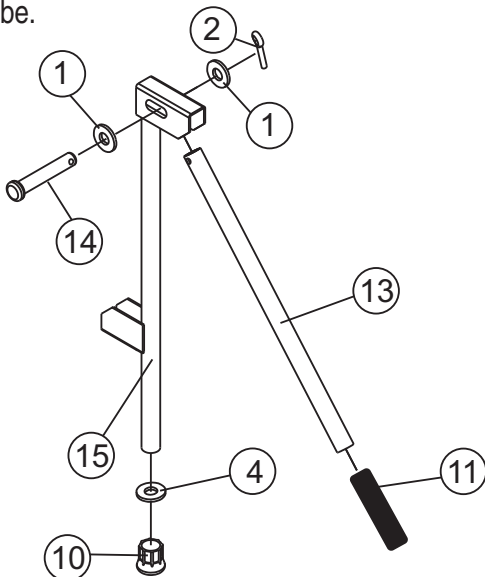

Figure 2. Handle Mount Assembly
5. Insert a **flat washer** (item 4) into the **crutch tip** (item 10) and place the combined items over the open end of the **handle mount** (item 15). See Figure 2.